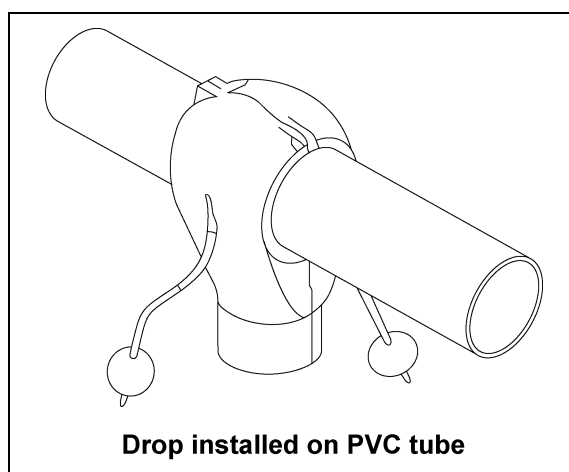

Figure 5N
4. Position the drop halves around the rotary slide and attach both halves together with the hardware provided as shown in Figure 5N.
9. Two (2) screws are supplied for attaching an optional drop tube. (See Figure 5N on Page 22.) Use both screws to attach the drop tube securely to the drop kit.